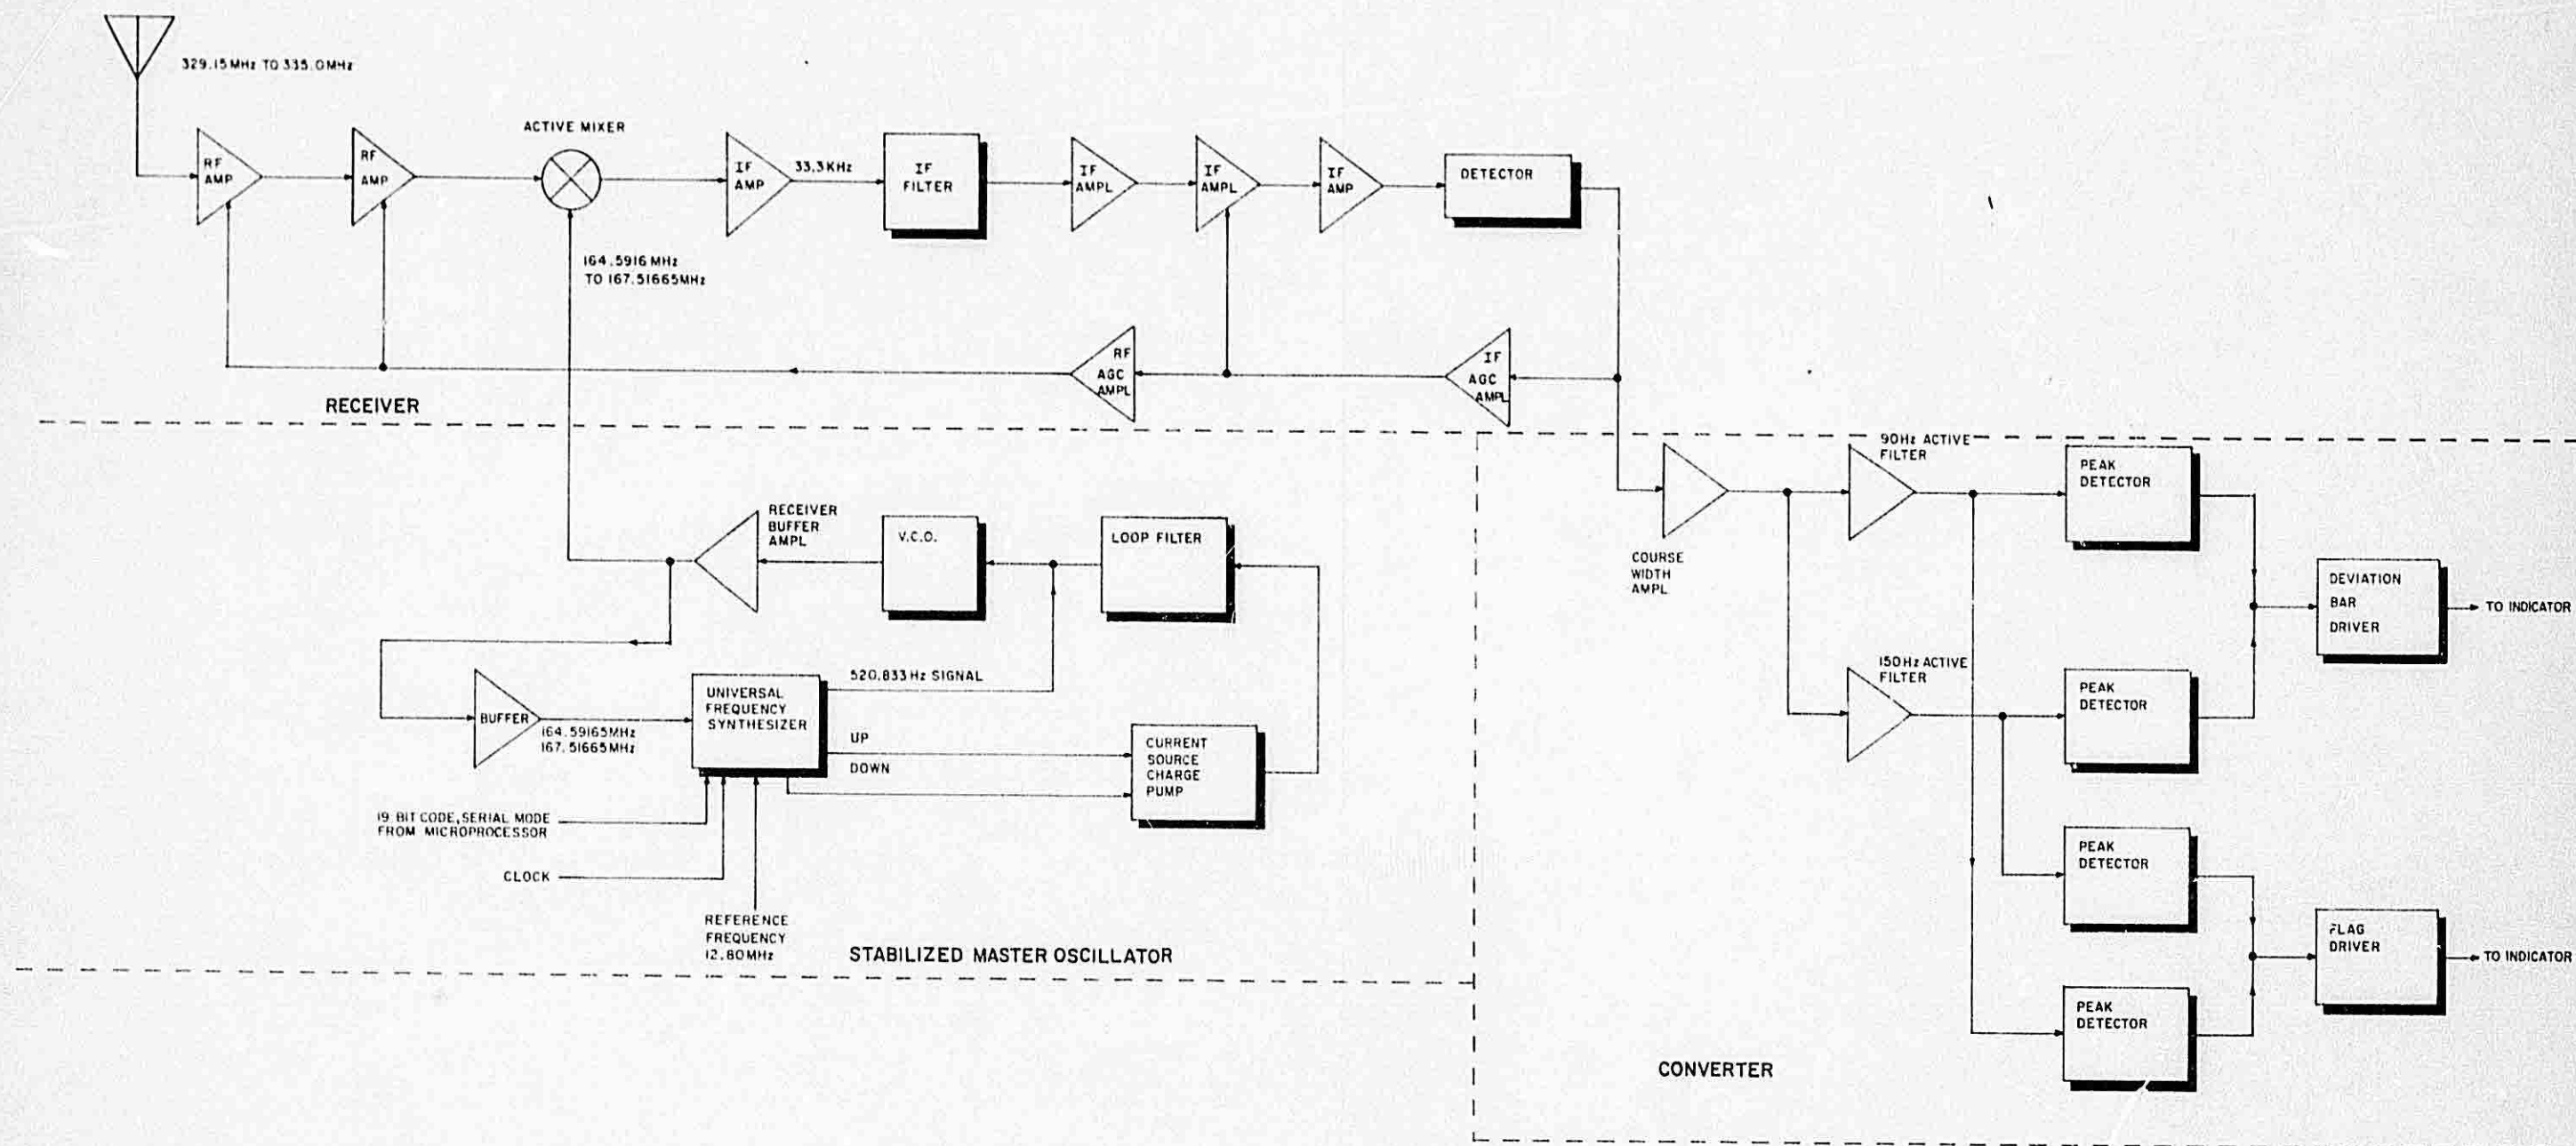

FIGURE 4-8 KX 165 GLIDESLOPE RECEIVER BLOCK DIAGRAM
4.2.6.4 Receiver (See Figure 4-8)